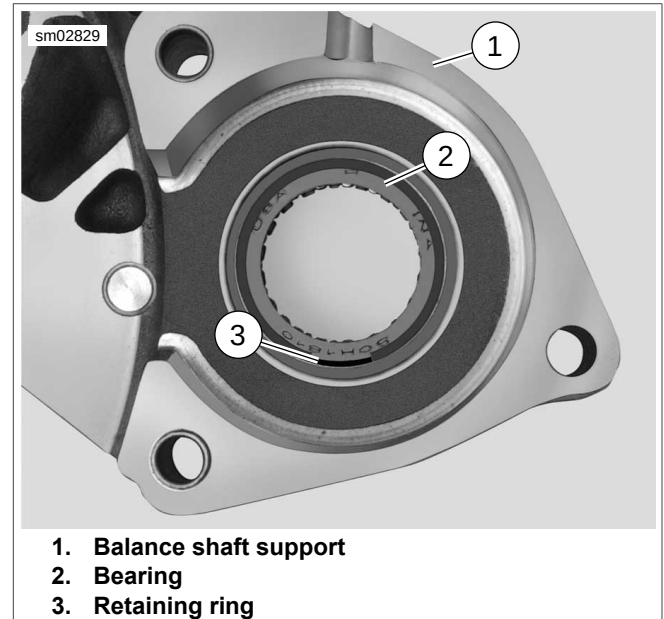
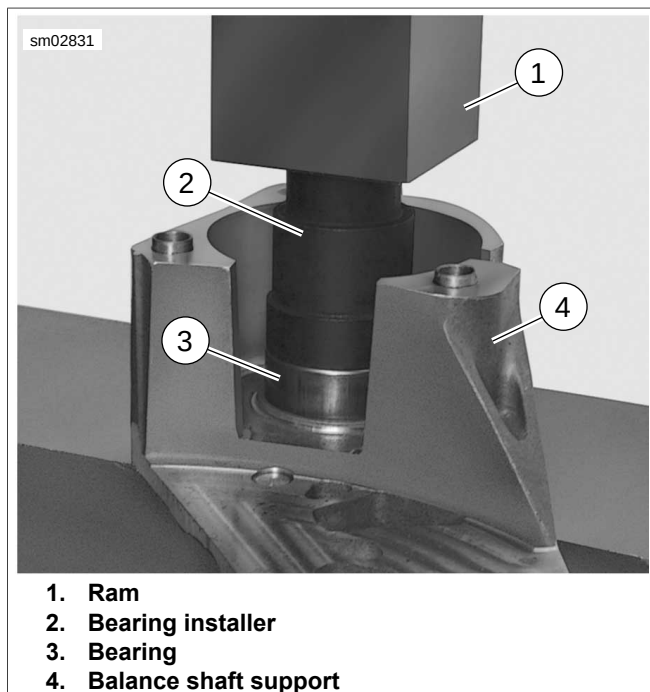

Figure 3-156. Balance Shaft Support Bearing
Figure 3-158. Installing Bearing in Shaft Support
- See Figure 3-156. Remove retaining ring (3)
- See Figure 3-158. Place balance shaft support (4) upside down on a suitable support.
- Set bearing on housing with letters on bearing facing up. Place bearing installer end of **BALANCE SHAFT SUPPORT BEARING REMOVER/INSTALLER** (Part No. HD-48474) (2) over bearing (3).
- Center installer under ram (1) of press. Slowly lower ram to seat bearing until it fits flush against support.
- See Figure 3-156. Install a **new** retaining ring (3).